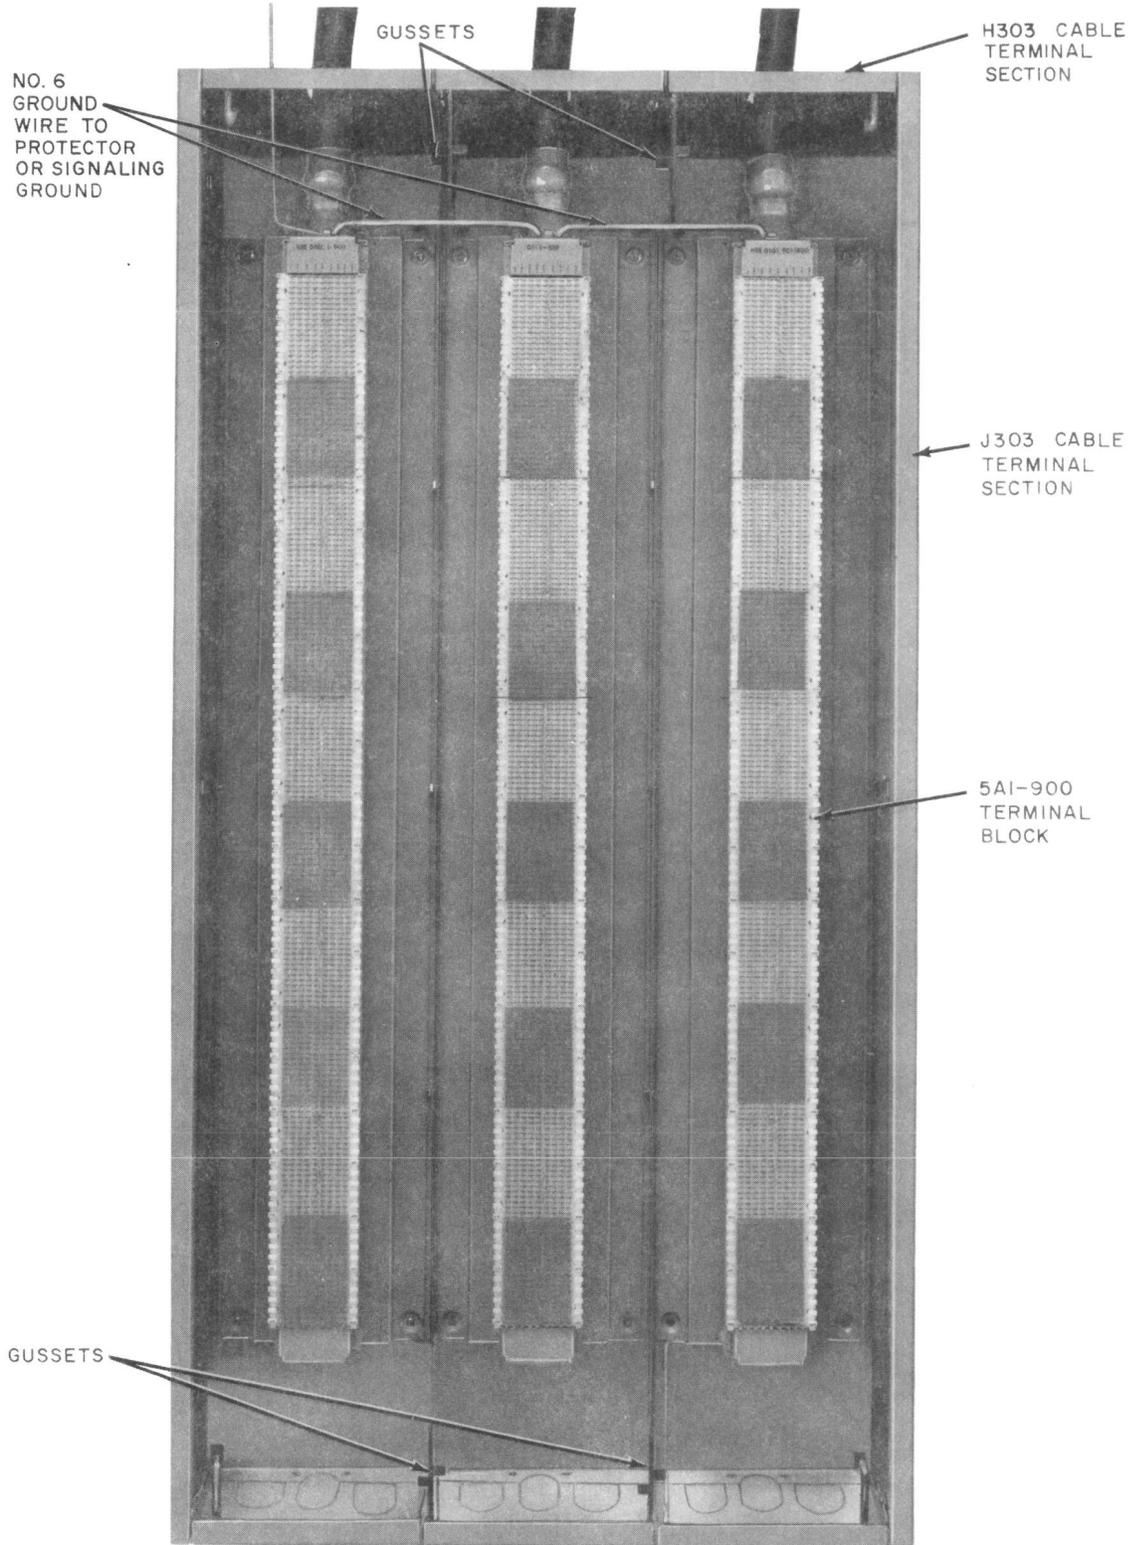

Fig. 4—5A1-900 Terminal Block Mounted in H303 Cable Terminal Section
1.05 The protector and signaling grounds shown in Fig. 4 and 5 must be provided in accordance with Section 460-100-201 of the Bell System Practices.